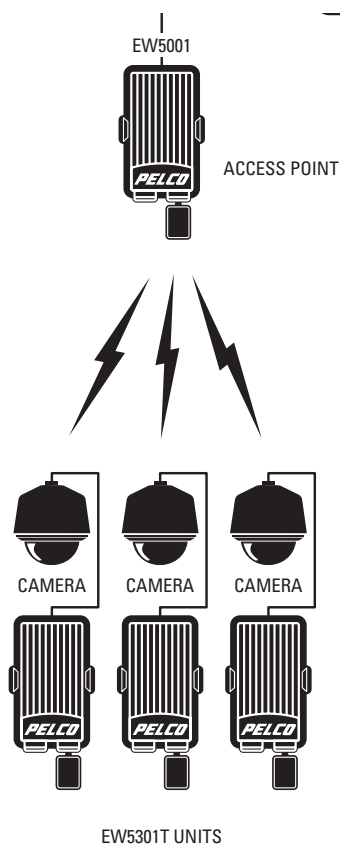

Figure 2. Sample EW5001 Access Point Application Scenario
- Access point: The EW5001 provides a wireless link from a cluster of EW5301T wireless video encoders to an Endura™ network in a point-to-multipoint configuration. It serves as a proprietary wireless network router (refer to Figure 2 on page 9). It supports all features that are available to the EW5301T, including automatic detection of PAL or NTSC, alarm inputs, relay outputs, activity detection, audio support, and pan/tilt/zoom (PTZ) camera control.
Figure 2 shows the EW5001 used as an access point for multiple EW5301T video encoders in a sample application scenario.